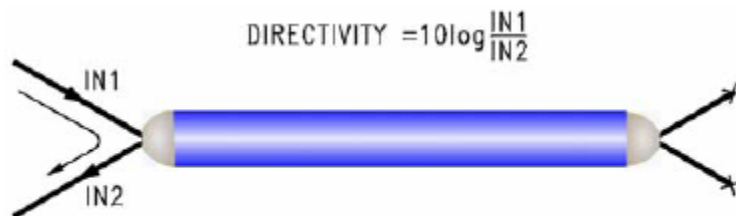

fig. 4.8 Directivity
- the directivity (fig. 4.8), that is defined also *Near-end Cross-talk*, and is the quantity of power present at a given input port in respect to the starting input power.